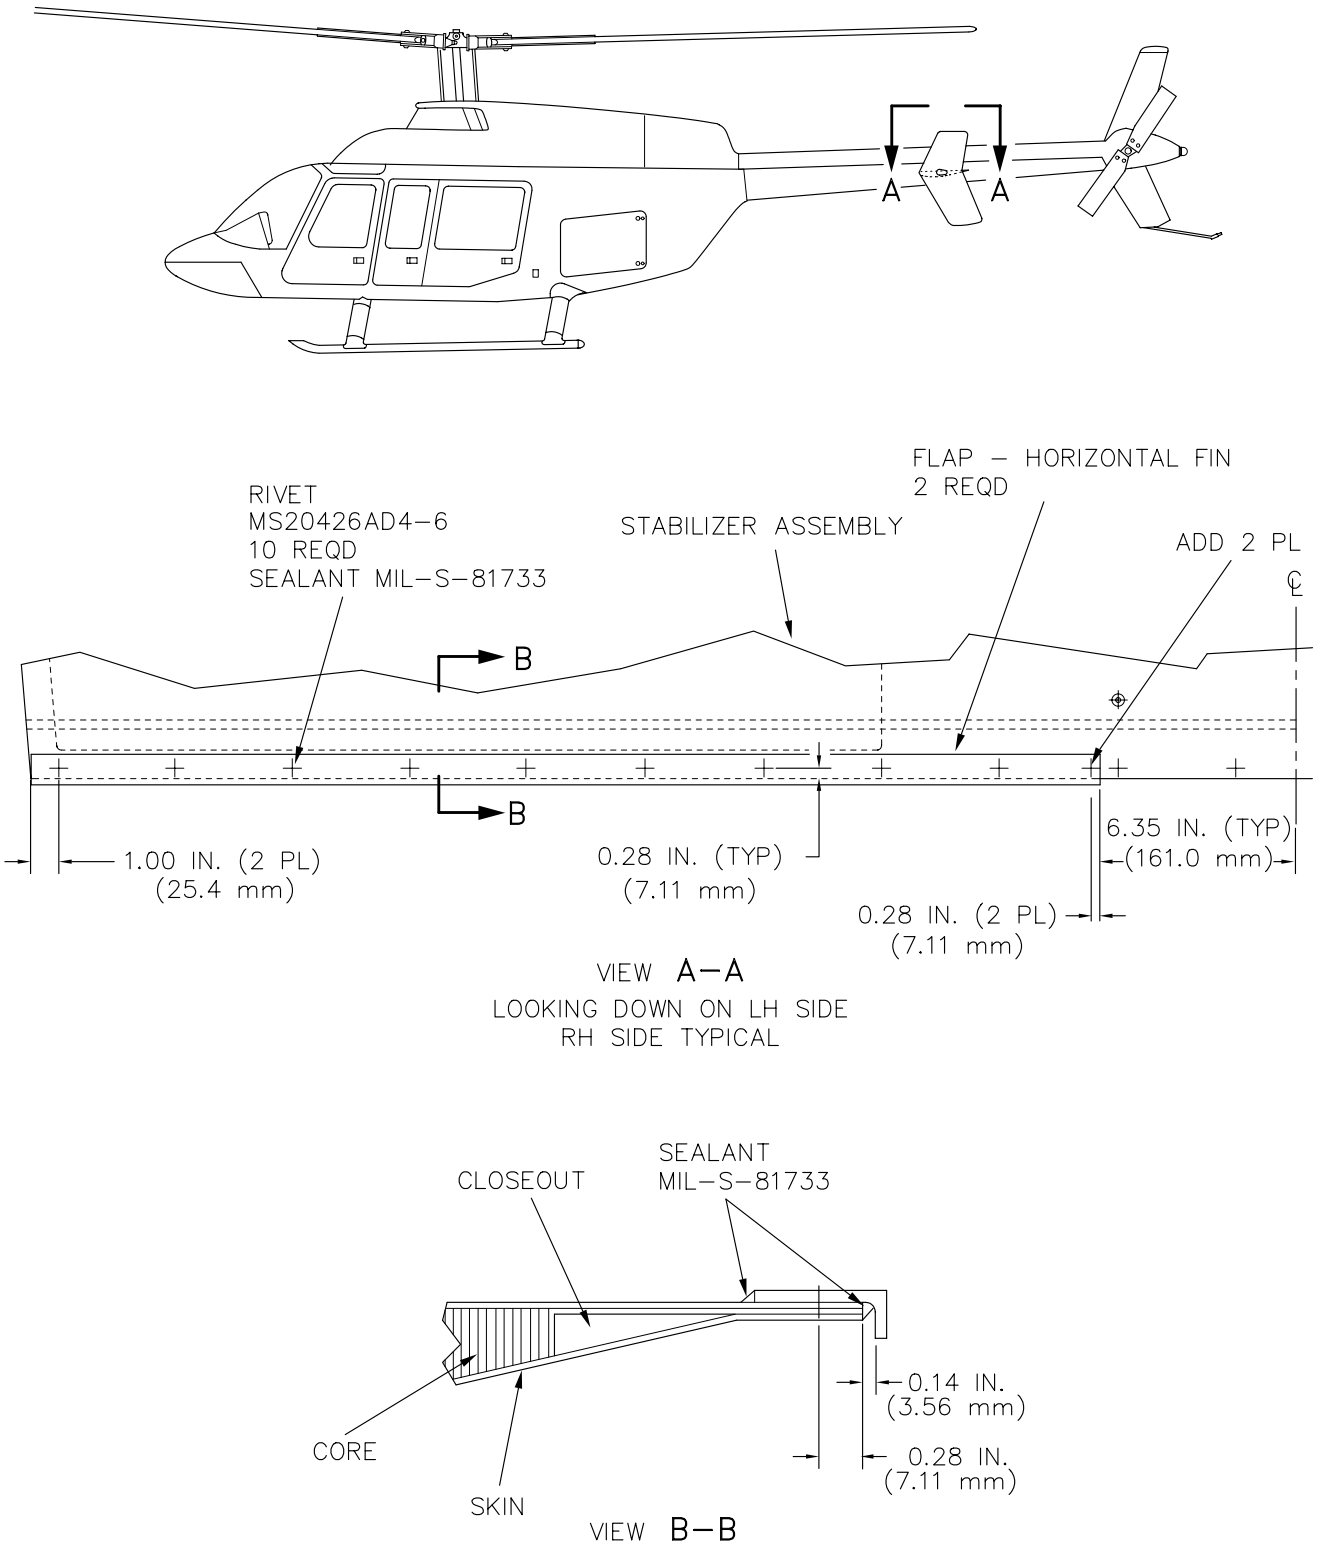

Figure 1. Stabilizer modification
Find the location of the flaps P/N 407-023-802-119 (qty.2). Refer to Figure 1. One flap is installed on the upper surface of each horizontal stabilizer along the trailing edge. The short leg of the flaps "L" extrusion points down. Remove and discard the rubber corner caps P/N 204-031-072-003 from the ends of the trailing edge.
- 6a. Put the flaps P/N 407-023-802-119 in position on the horizontal stabilizer. With the use of the horizontal stabilizer rivet holes backdrill the flaps. One more rivet hole is necessary on the inboard edge of the flap, refer to Figure 1.